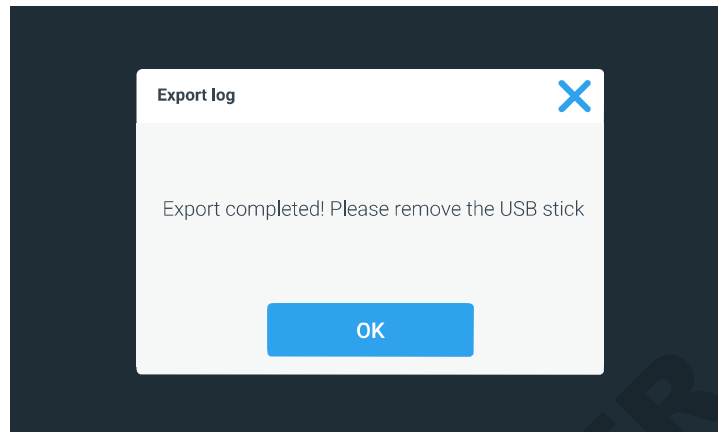

Figure 115 "Export log" Screen: Export completed
- When the export process has been completed, the final pop-up window shown in Figure 115 appears, announcing that you may remove the USB drive now.